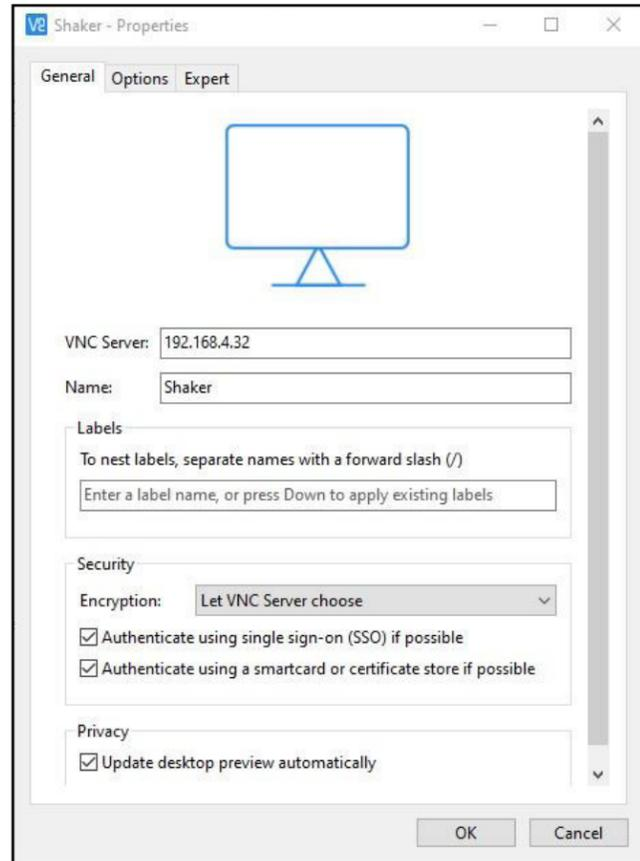

Figure 64
6. Enter the shaker's IP address in the **VNC Server input** to complete the login setup (*Figure 64*).